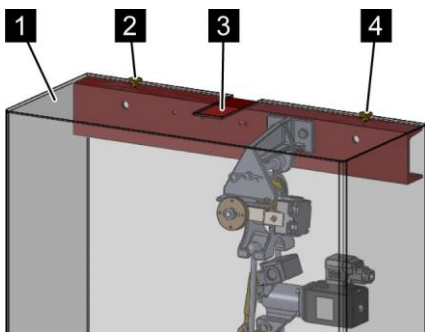

Fig. 80: Mounting the protective hood
39. ➤ Screw the protective hood (Fig. 80/1) onto the U-profile (Fig. 80/3) from above (Fig. 80/2+4).